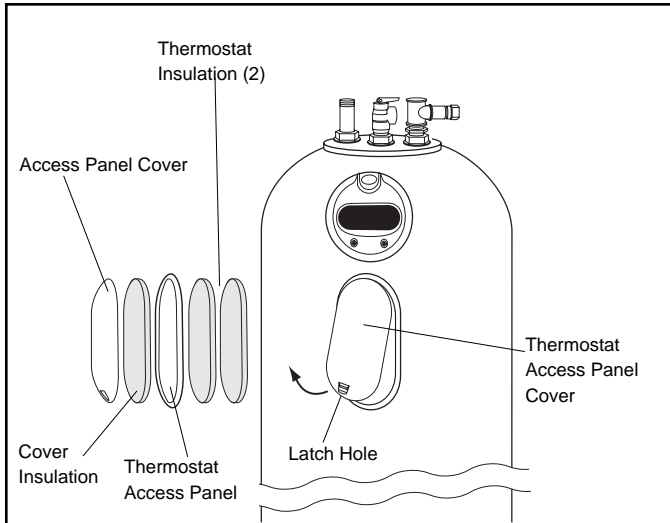
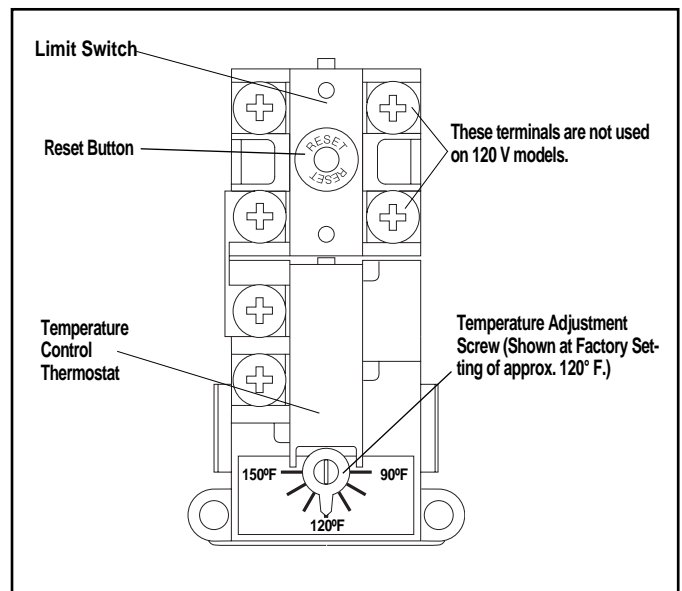

Figure 9 — Removing Thermostat Access panel.
Figure 11 — Thermostat & High Limit Switch
- A. Remove the thermostat snap-in access panel cover. Insert finger into latch hole on the bottom of the cover, and push up to release the latch. Then pull forward to remove the cover and insulation. (See figure 9.)
To reset High Limit Switch, **turn off** power to water heater, remove jacket access panel and insulation, and the access panel and insulation to expose the Thermostat and High Limit Switch. (Refer to Figure 9.) **The plastic personnel protector SHOULD NOT be removed.** Press the "RESET" button (see Figure 11). Replace insulation and jacket access panel(s) before turning on power to water heater.